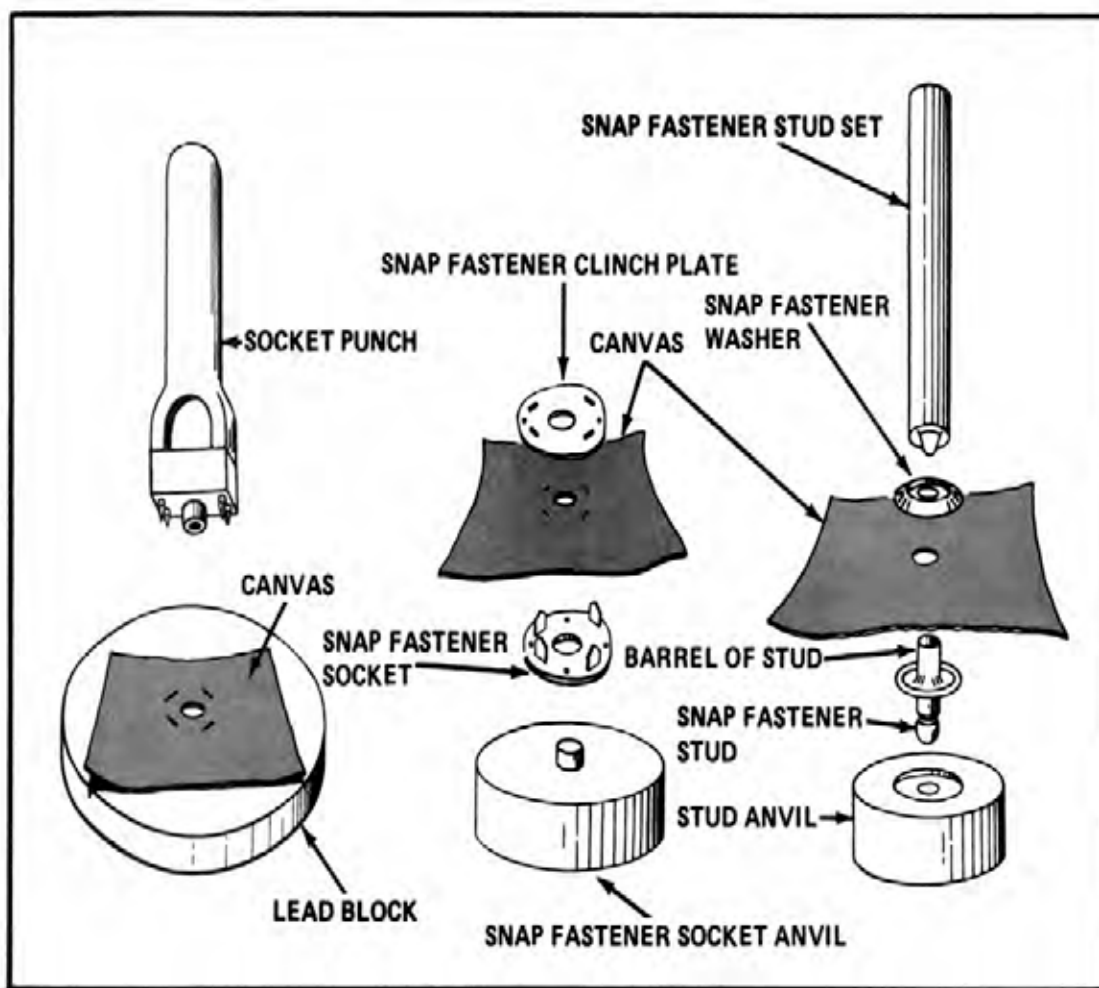

Figure 12-9. Replacing a type 1 snap fastener
a. Style 1 Snap Fastener. A style 1 snap fastener has two sections, a female half and a male half. The female half has two parts, a socket and a clinch plate. The male half also has two parts, a stud and a washer. The stud is available in two sizes, single and double. The double stud is twice as long as the single stud and can hold an additional layer of canvas. To install a style 1 snap fastener (Figure 12-9)--
- (1) Obtain a style 1 snap fastener, chalk, socket punch, socket anvil, hole punch, stud set, stud anvil, rawhide mallet, and lead block.
- (2) Remove the old snap fastener, and patch or replace the canvas if necessary.
- (3) Mark with chalk the exact position of the hole for the female half of the snap fastener.
- (4) Place the canvas over the lead block so that the chalk mark is centered on the block.
- (5) Center the socket punch over the chalk mark.
- (6) Hit the socket punch with a rawhide mallet to make slots for the socket prongs and a center hole.
- (7) Insert the socket prongs into the slits through the underside of the canvas.
- (8) Place the clinch plate over the socket prongs.
- (9) Place the canvas and socket, prongs up, on the socket anvil.
- (10) Bend the socket prongs toward the center with the top of the socket punch until the prongs are flat against the clinch plate and the plate and socket are securely clinched to the canvas.